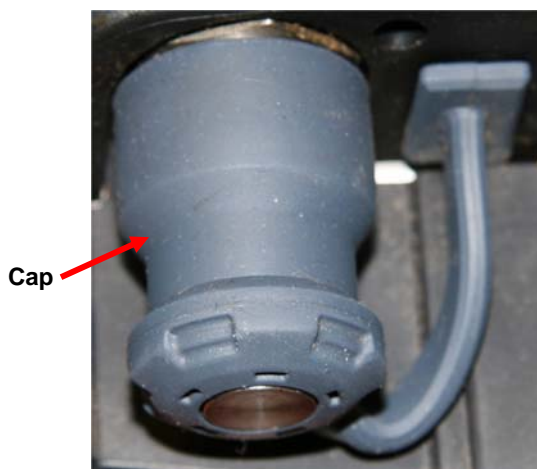

Figure 1
1. Attempt to remove the pin-and-cap assembly from the UAC coupling (see Figures 1 and 2).